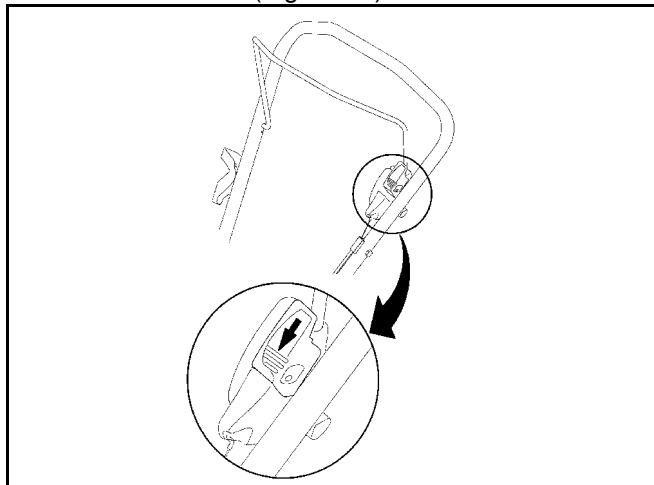

Figure 21
3. Pull control bar toward handle while pushing down slide on control (Figure 21).